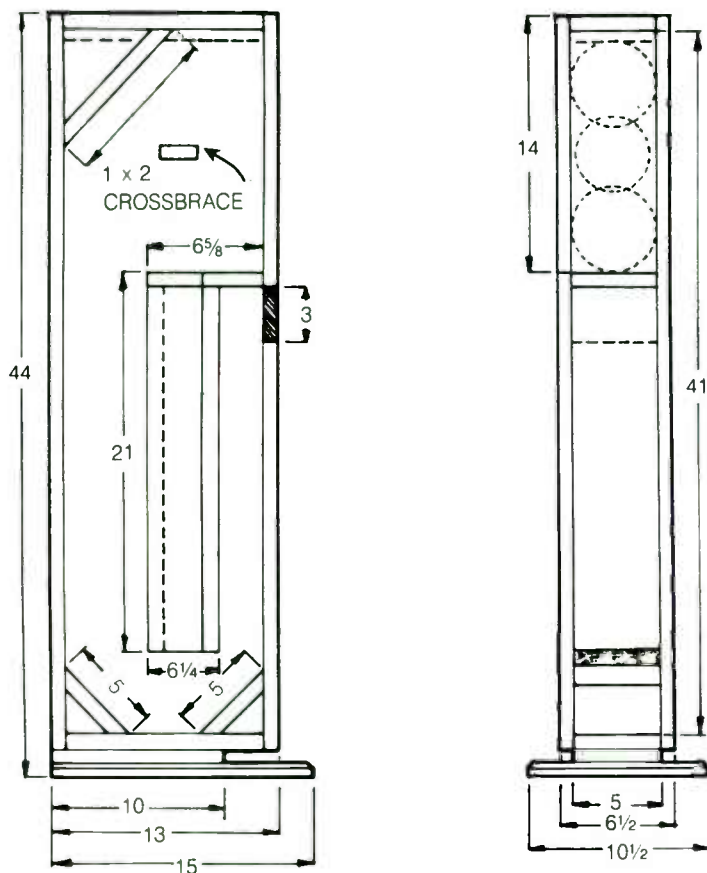

FIGURE 1: Cabinet design for satellite system.
*Figure 1 will give you an idea of my satellite system. The speakers are big, but they have good bass extension, even without a sub-woofer. The F3 point is approximately 50Hz, and useful response goes to almost 40Hz without over-extending the small mid-bass drivers, at reasonable listening levels. All material is ¾" cabinet grade particle board. The vertical internal baffle is angled to help reduce standing waves. The chamber behind the drivers is lined with 1" thick fiberglass: one sidewall, underside of the top, top of the woofer shelf and angle baffle.*